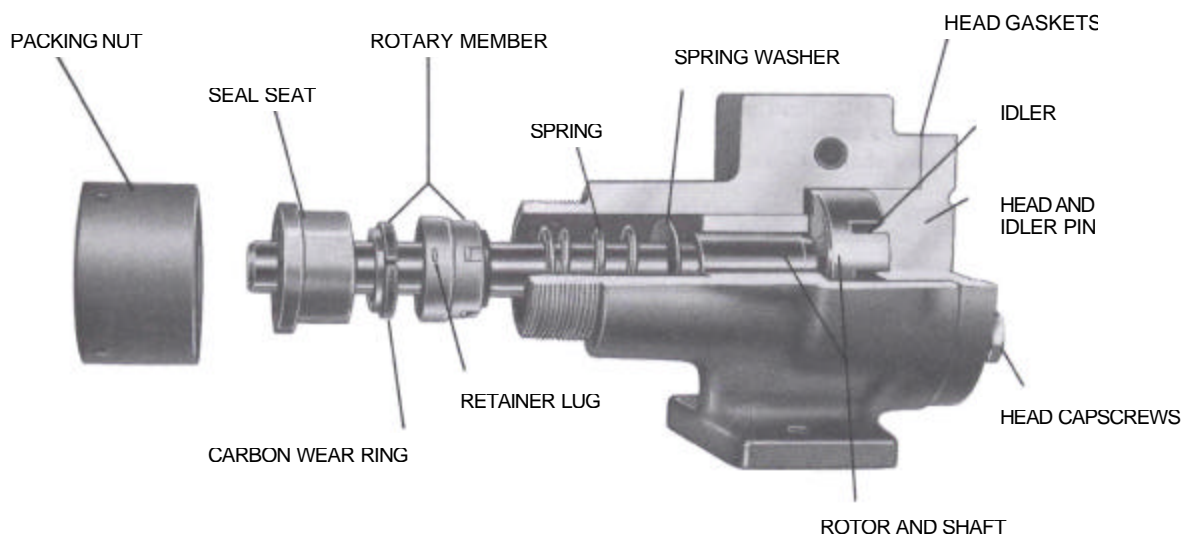

FIGURE 4
4. When reassembling a mechanical seal pump, place the spring washer and spring on the shaft, see Fig. 4, Page 4. Coat the shaft and the inside of the rubber bellows of the seal rotary member with light oil. Slide the rotary member part way down the shaft.